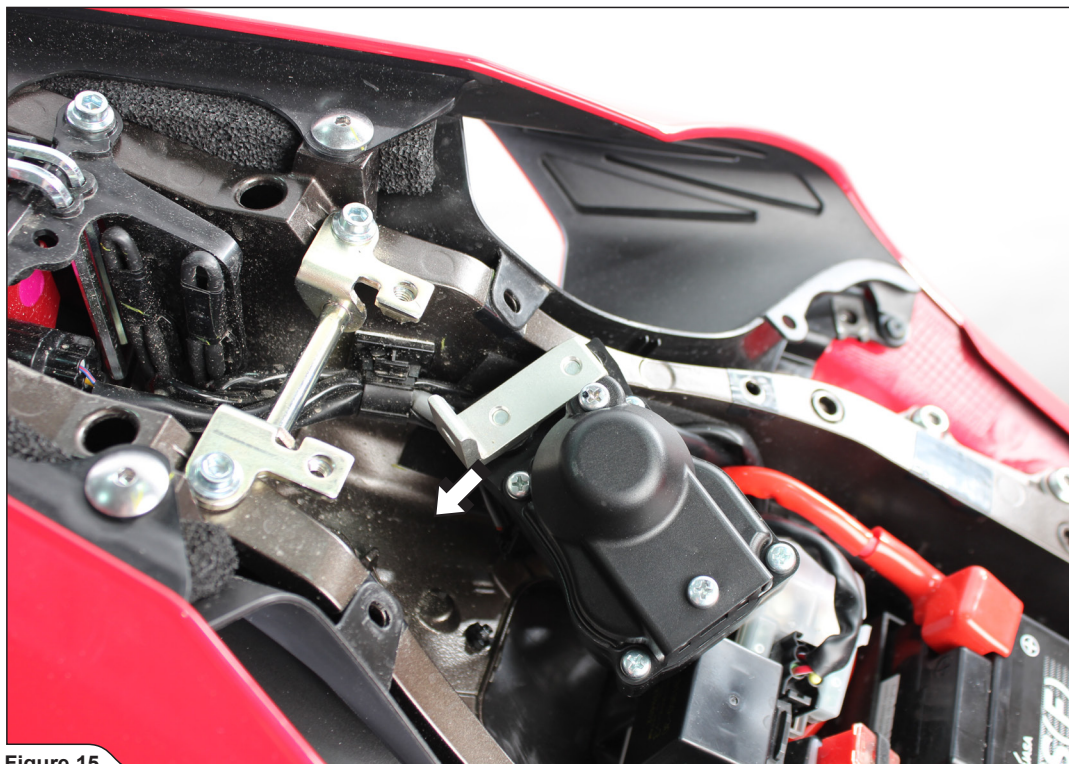

Figure 15
13. Reinstall valve servo motor without cables onto the motorcycle in reverse order from the order in which it was removed (Figure 15, 16).